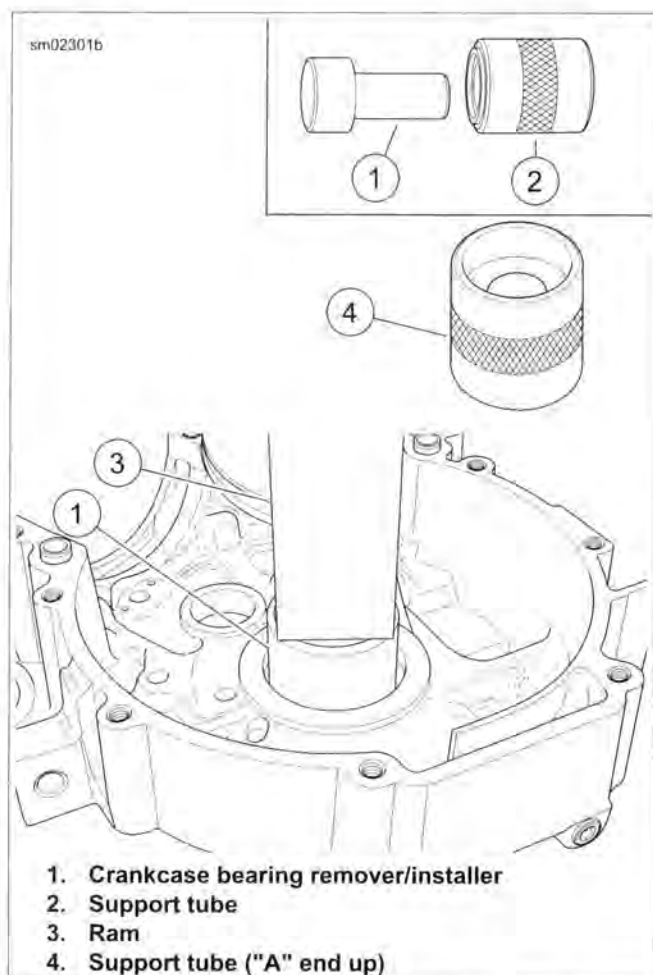

Figure 3-114. Right Main Bearing Removal
2. See Figure 3-114. Obtain CRANKCASE BEARING REMOVER/INSTALLER (Part No. B-45655) and REMOVER/INSTALLER SUPPORT TUBE (Part No. HD-42720-5).
3. Place support tube (4) on hydraulic press table with the end marked "A" up.
5. Slide remover/installer (1) through bearing into support tube.
6. Center remover/installer under ram (3) of press. Apply pressure until bearing is free.